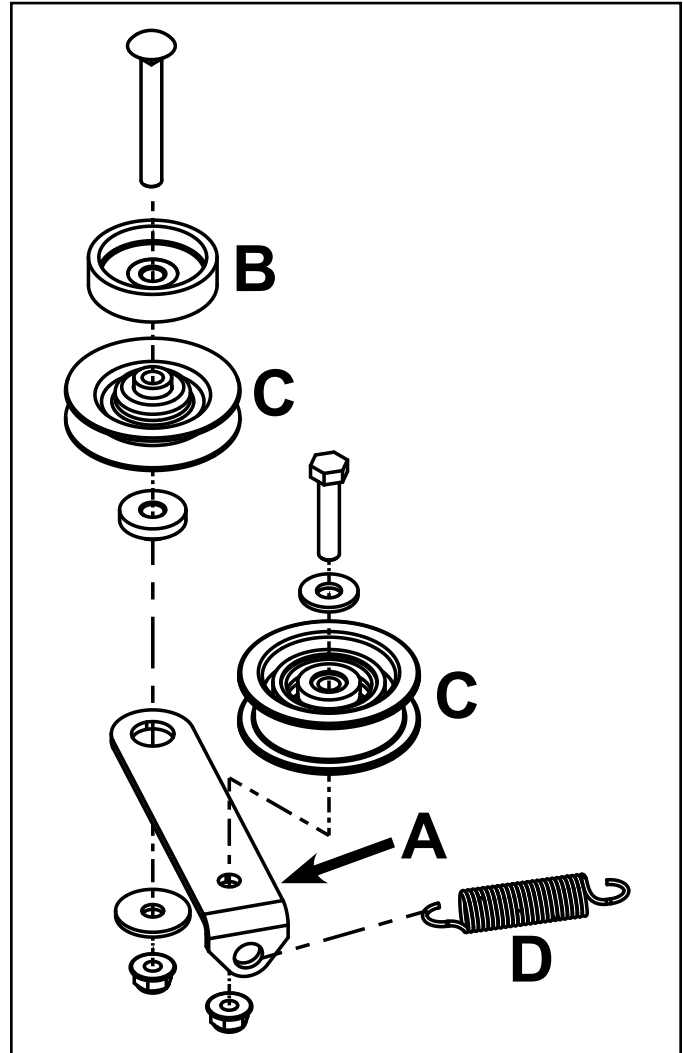

Fig. 055
6. Inspect the idler arm pivot and pulley bearings for excessive wear and replace if necessary (Fig. 055).